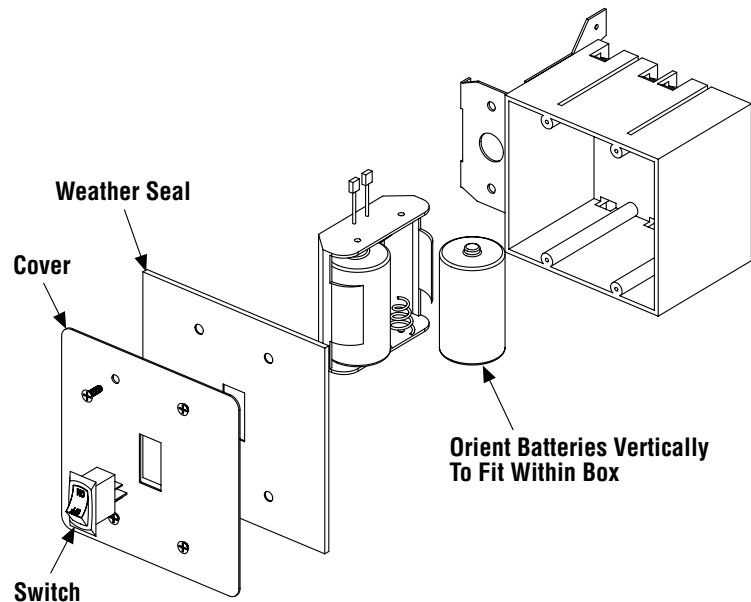

Figure 3 - Battery Replacement
The intermittent ignition system operates on 3 volts provided by two (2) "D" cell batteries. The batteries are located in a pack installed within the J-Box, behind the stainless ON/OFF switch panel. **Refer to Figure 3.**